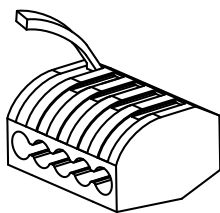

Fig. 3
- a. Shut off power to the outlet box (A).
- b. Feed the cords through the bushings (H). Determine height at which the pendant is to be hung. Use the screwdriver to loosen the slotted set screws (B). Adjust height of cords and tighten set screws. Reserve extra cord in the canopy (C). If shortening the cords is necessary, see Appendix A.
- c. Attach the mounting plate (D) to the outlet box (A), secure with outlet box screws (E).
- I. Connect the LED driver's (F) live wire (black) to the live outlet box wire.
- II. Connect the LED driver's (F) neutral wire (white) to the neutral outlet box wire.
- III. Connect the canopy's ground wire (green or uncoated) to the ground outlet box wire. If no ground is present in outlet box, connect canopy's ground wire to the mounting plate (D) using the green screw (included).
- IV. Connect fixture cords to driver output wires using lever nuts, as seen in Fig. 2 by pulling up on the lever for an empty slot (Fig. 3), inserting the wire, and pushing the lever back down to lock. The inner stranded conductor and the outer braided conductor on each cord must be connected to separate lever nuts, as shown in Fig. 2. Carefully place connections in canopy.
- e. Attach canopy (C) to the mounting plate (D), secure with canopy screws (G).